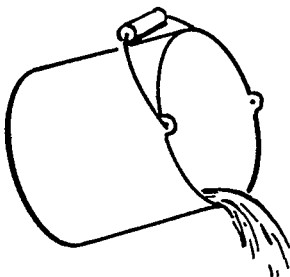

FIGURE 8. POUR POINT
**Pour Point:** Pour point indicates the suitability of fuel to cold weather operation. Fuel should pour at 10°F (-6°C) below the lowest expected ambient temperature, Figure 8.